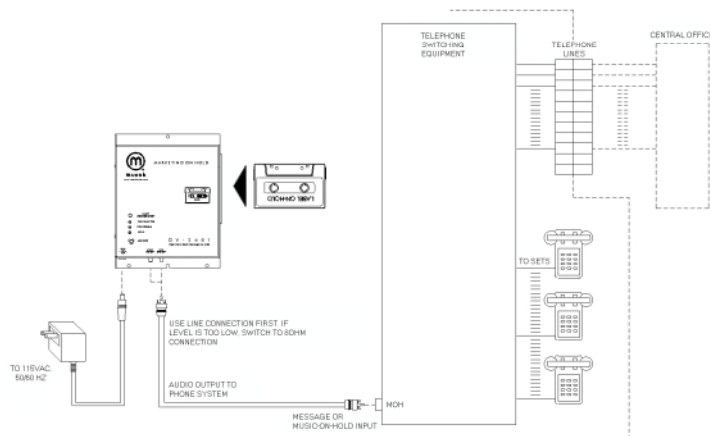

Figure 2
| 2.3. CONNECTION TO TELEPHONE EQUIPMENT (FIGURE 2): | 6 |
2.3. Connection to Telephone Equipment (Figure 2):